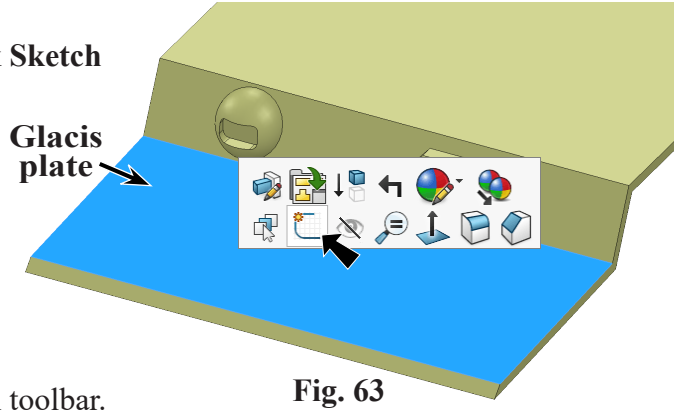

Fig. 63
Step 1. Click the **face of Glacis plate** and click **Sketch**  on the context toolbar, **Fig. 63**.